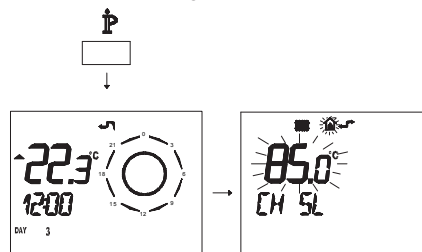

Fig. 8.12
- Press button **P** for more than 3 seconds to enter in **INFO** (Fig. 8.12) mode.